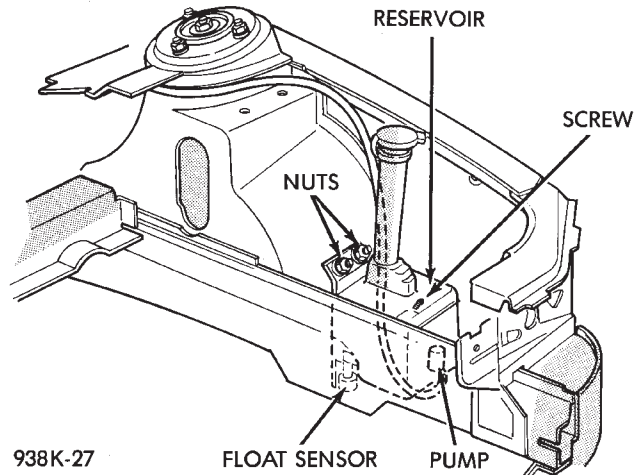

Fig. 15 Reservoir Removal
- (2) Remove two reservoir retaining nuts and screw then remove reservoir (Fig. 15).
- (3) Disconnect the wire connector from the reservoir pump and float sensor.
- (4) Disconnect the washer hose and block the liquid outlet to prevent the liquid from running out of the reservoir.